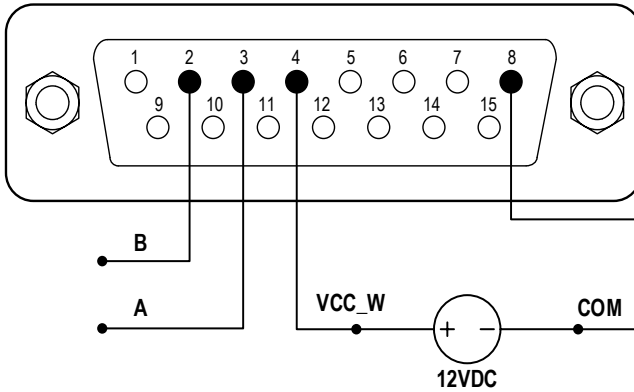
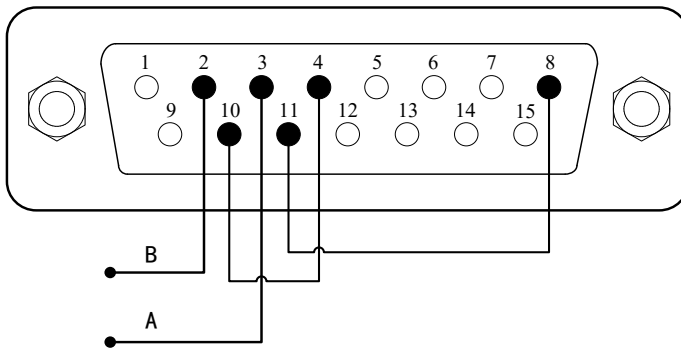

Figure 17. RS485 MODBUS Wiring with External 12V Power Source
Figure 18. RS485 MODBUS Wiring with Internal 12V Power Source
1) When the power is off, wire the DB15 connector as shown on Figure 17 or Figure 18 and connect it to the DB15 port on the rear of the pump. External DC power source is recommend to avoid electrical interference.